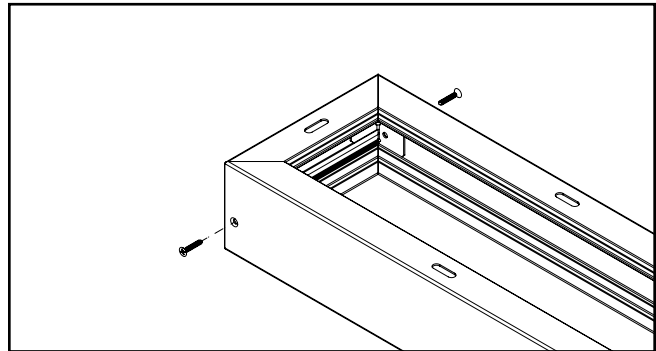

Figure 4.
- A4. Use the 4 included screws to secure the short rails to the long rails (1 screw per corner) as shown in Figure 4.